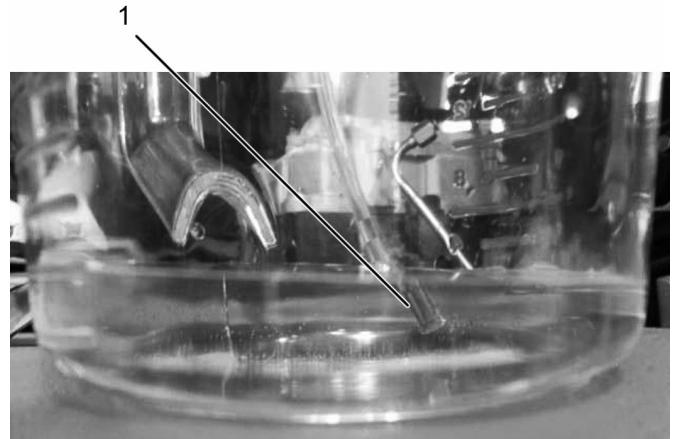

Figure 19
1. Check for leaks by placing end of hose from Cooler Plug - Leak Detection KL20060-3B, and later the Large Plate - Leak Detection 12-892-02-01, into a container of water to a depth of .375," which is marked with red dye on each of the hoses (Figure 19).